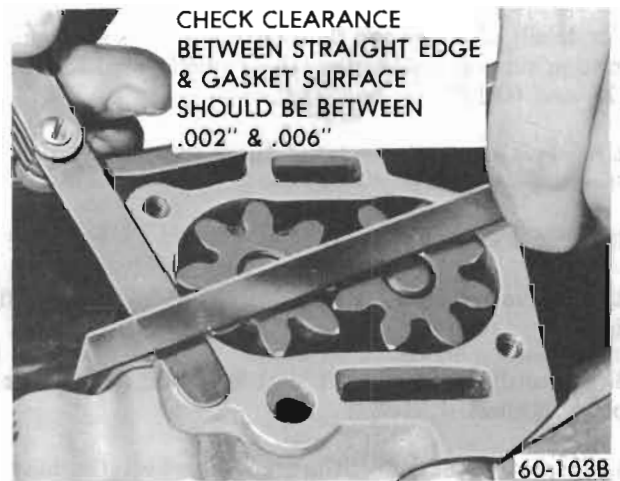

Figure 60-117 - Checking Oil Pump End Clearance
3. Place a straight edge over the gears and measure the clearance between the straight edge and the gasket surface. See Figure 60-117. Clearance should be between .0023" and .0058". If clearance is less than .0018" check timing chain cover gear pocket for evidence of wear.